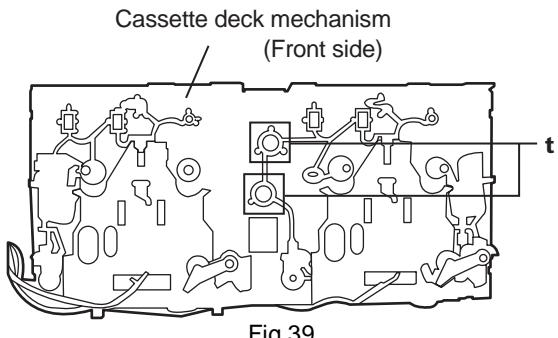

Fig.39
3.1.15 Removing the cassette deck main motor, and replacing the main belts (See Fig.39 and 40)
- (1) Remove six screws **Z** retaining the cassette deck mechanism. (Fig.39)
- (2) Remove the cassette deck mechanism.
- (3) Remove two screws **t** retaining the main motor from the front side of the cassette deck.
3.1.16 Removing the leaf switches of the cassette deck mechanism (See Fig. 39 and 41)
- (1) Remove the six screws **Z** that retain the cassette deck mechanism. (Fig.39)
- (3) Turn the cassette deck mechanism upside down.
- (4) Remove the solder from around the leaf switches.
- (5) Pull out the leaf switches from the front side of the cassette deck mechanism.
(See Fig. 39 and 42)
- Remove six screws **Z** that retain the cassette deck mechanism. (Fig.39)